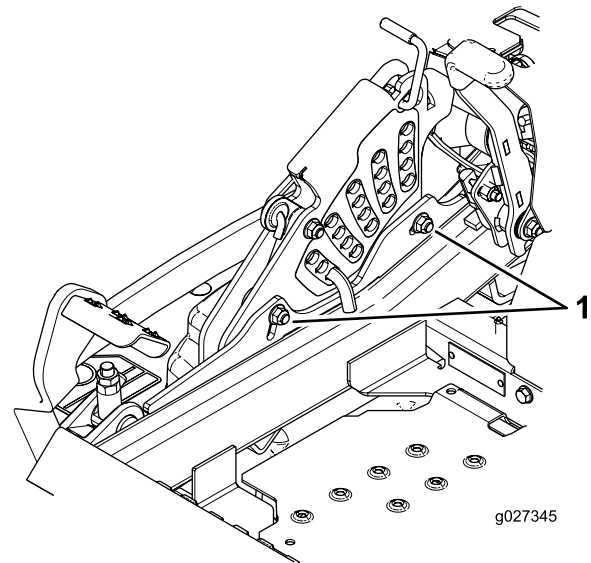

Figure 88
- 12. To adjust the single point system, loosen the two bolts at the bottom of the height of cut plate. Refer to Figure 88.
14. Tighten the two bolts at the bottom of the height of cut plate (Figure 88). Torque to 37-45 N-m (27-33 ft-lb).